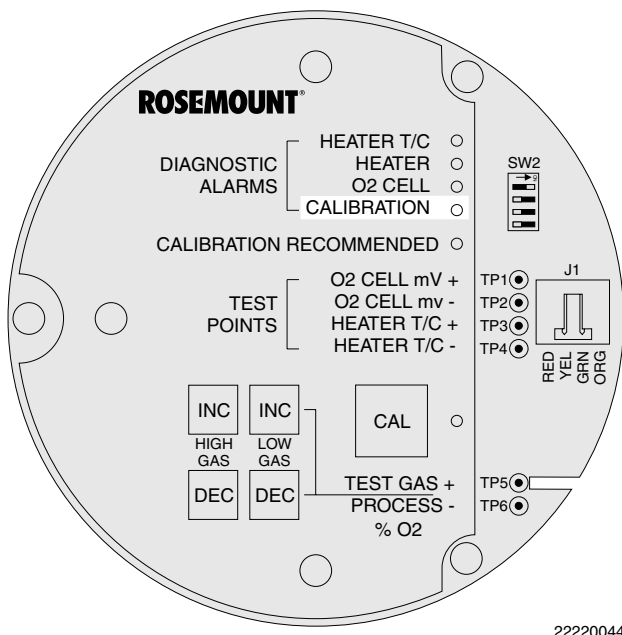

Figure 5-13. Fault 13, Invalid Slope
m. Fault 13, Invalid Slope. The CALIBRATION LED flashes once, pauses for three seconds, and repeats (Figure 5-13).